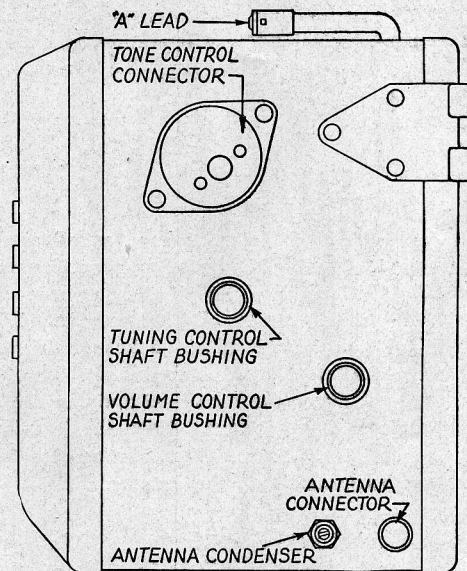
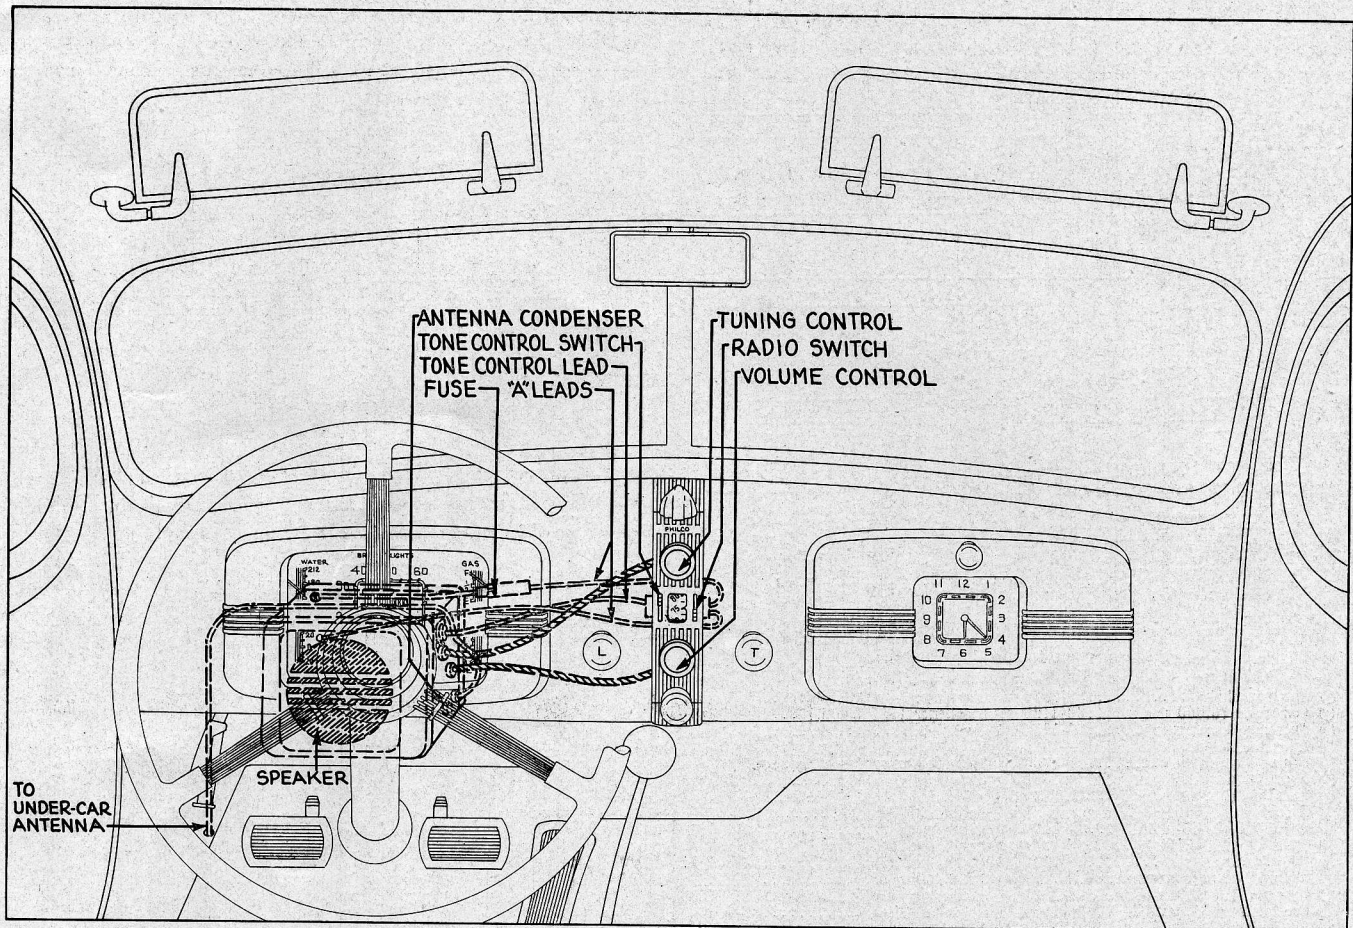

FIGURE 2
FIGURE 3
Seat the volume control shaft in the proper bushing on the Receiver housing (see Figure 2 and Figure 3) and tighten the shaft casing nut securely. Before coupling the tuning control shaft to the Receiver, turn the tuning control knob counter-clockwise to the mark below 55 on the scale. To couple the shaft, turn the knob counter-clockwise slowly until the shaft end is seated in the bushing and tighten the knurled casing nut securely with the fingers.
**ANTENNA CONNECTION**—Place the connector plug (supplied with the Receiver) in the antenna lead connector in the Receiver and then plug the antenna lead into the antenna lead connector. The location of the antenna connector is shown in Figure 2.
**TONE CONTROL CONNECTION**—The tone control switch is on the left of the control unit. Connect the black lead from the tone control switch to the Receiver. The location of the tone control connector is shown in Figure 2.
**ANTENNA COUPLING ADJUSTMENT**—Turn on the radio and tune in a *weak broadcast signal at approximately 75* on the control scale. The volume control should be turned well up. With a small screw driver, adjust the antenna coupling condenser for the maximum signal. The location of the coupling condenser is shown in Figure 2.